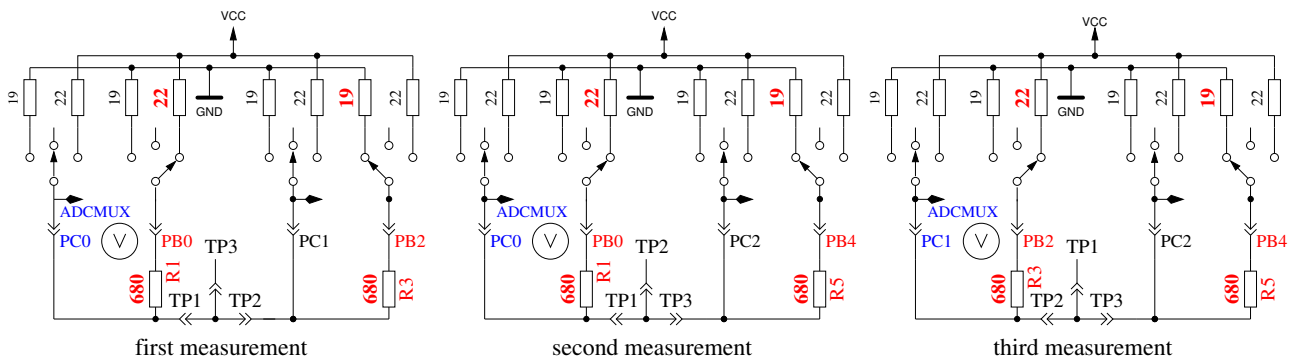

Figure 5.42: Comparison of 680Ω resistors
2. **Comparing of the 680Ω resistors.** In row 1 the cryptic text “+RL- 12 13 23” is shown. Meaning of this is as follows: The RL is the short form of Resistor Low meaning the 680Ω resistors. The 12 stand for: resistor at pin 1 is connected to VCC (+) and resistor at pin 2 is connected to GND (-). The result of this measurement is displayed in row 2 at the first place as difference to the theoretical value. In row 1 follows now a “13” which means, that the first connection of measurement 1 is still connected with 680Ω to VCC but that the resistor of pin 3 is connected to GND. The result is displayed in the middle place of row 2 as difference to the theoretical value. The last measurement of this test “23.” means that now the resistor at pin 2 is connected to VCC (+) and the resistor of pin 3 is connected to GND. The result of measurement is displayed at the last place of LCR row 2 as difference to the theoretical value. Please remember, that the resolution of the ADC is about 4.88mV! The measurement situation is also shown in figure 5.42. The theoretical value with respect to the internal resistance of the pins should be:  $\frac{5001 \cdot (19+680)}{(19+680+680+22)} = 2493$ .